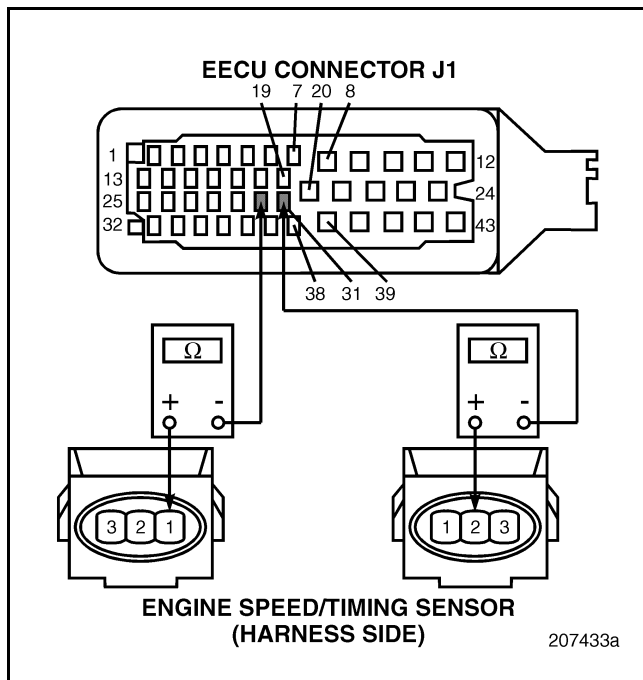

Figure 378
4. Have a helper wiggle the harness while you check for continuity between RPM/TDC Sensor connector pin 1 and EECU connector J1 pin 30 and between RPM/TDC Sensor connector pin 2 and EECU connector J1 pin 31 (see Figure 378).